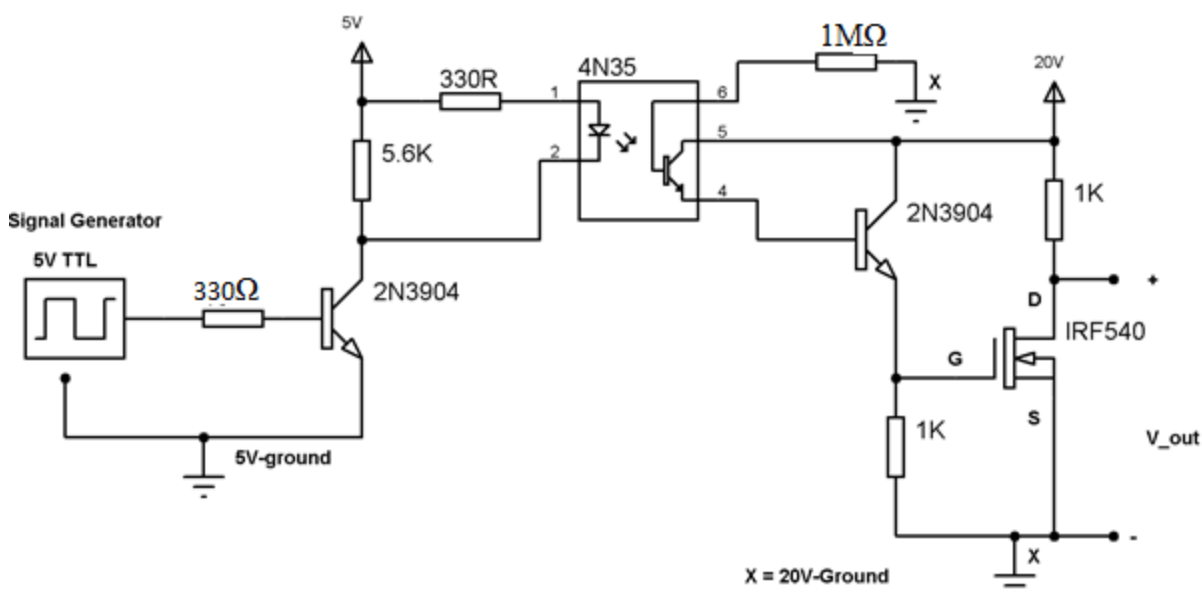

Figure 1. Optically isolated gate driver circuit for MOSFET
1. Implement the circuit diagram shown in Figure 1.